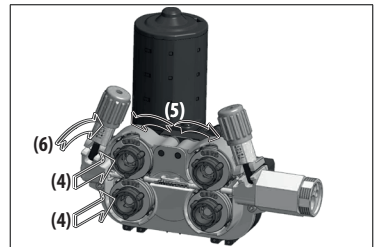

Figure 10 : Wire Feed Roller Placement
- Place the roller to be used so that the cavities inside the wire feed roller overlap the protrusions on the wire feed body (4). Turn to the right or left to ensure that the locking sound is heard and that the wire feed rollers are in place. Then lower the pressure rollers (5) and lift the pressure roll lever to lock it onto the pressure roller (6). (Figure 10)